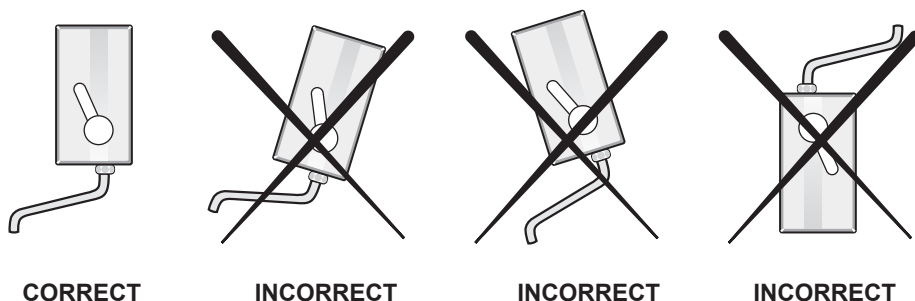

fig. 1
- The heater can operate only in the position shown in figure 1.